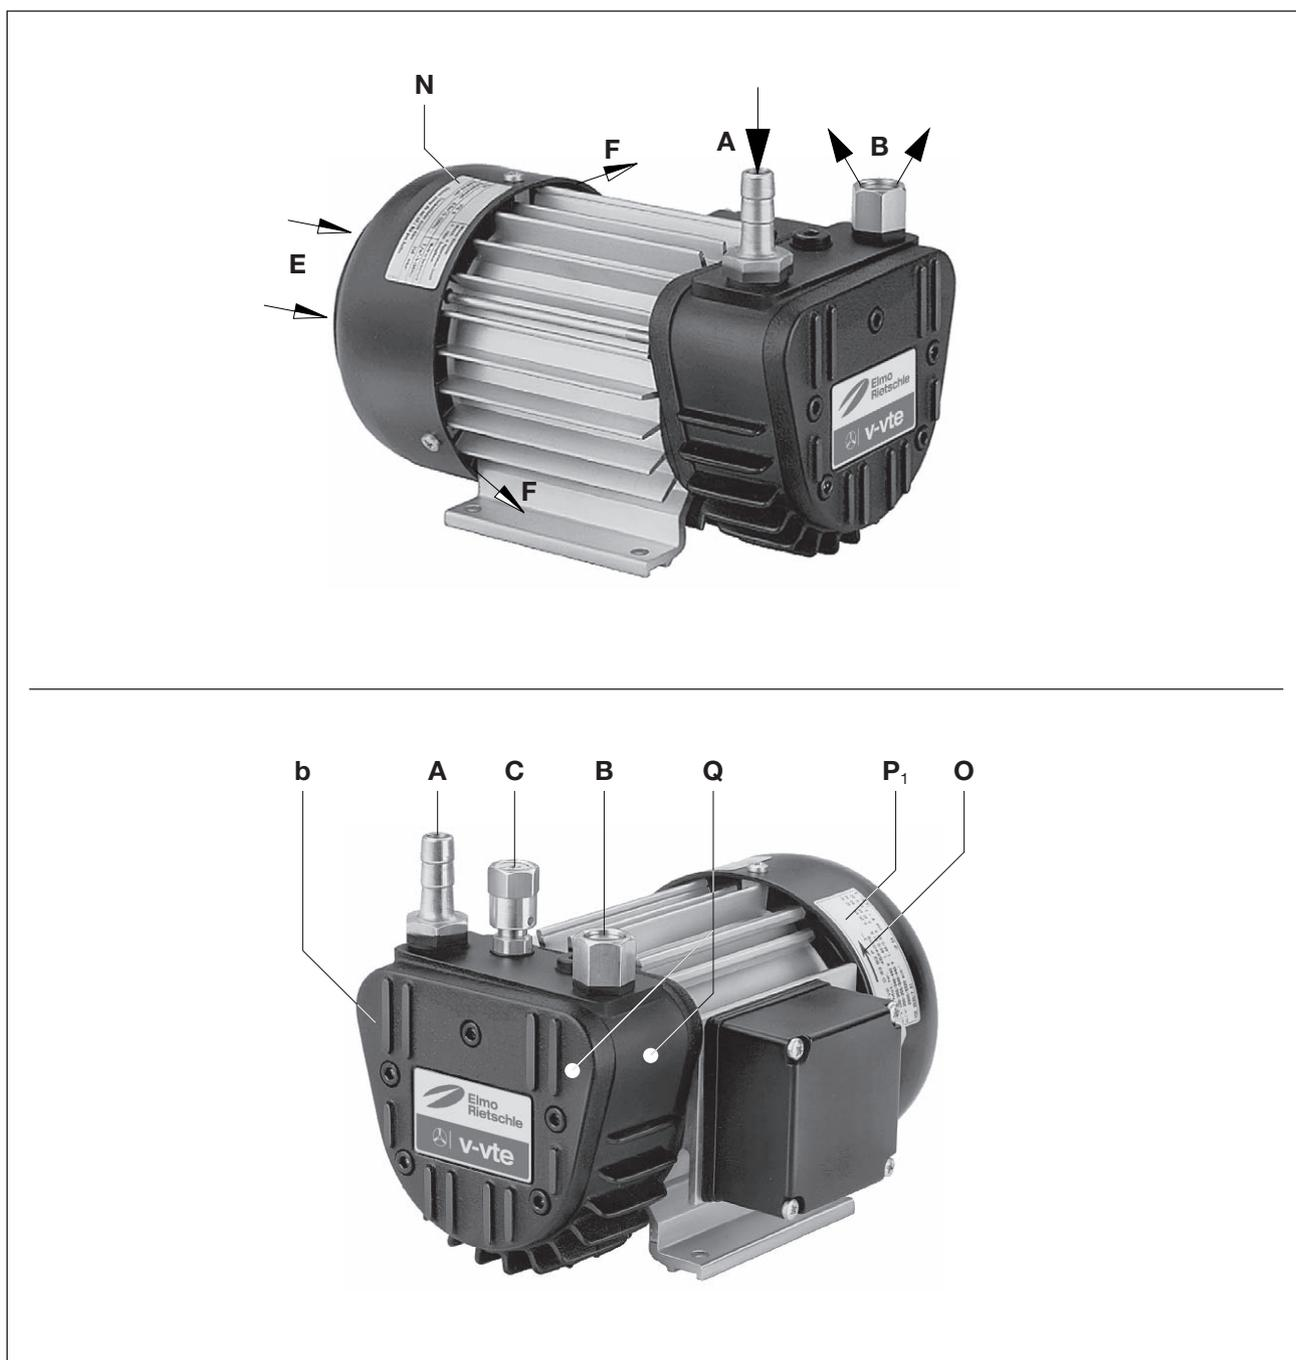

Fig. 1 Vacuum pump V-VTE
There must be a minimum space of 20 cm in front of the housing cover (Fig. 1/b) for servicing. The cooling air entries (Fig. 1/E) and the cooling air exits (Fig. 1/F) must have a minimum distance of 8 cm from any obstruction. The discharged cooling air must not be recirculated.
- a) Vacuum connection at (Fig. 1/A).
The air handled can be exhausted into the atmosphere through the exhaust port (Fig. 1/B) or by utilising a pipe connection and pipeline.
The vacuum can be set by turning the control knob (Fig. 1/C) as shown on the symbol fitted to the button.
- a) The electrical motor data can be found on the data plate (Fig. 1/N) or the motor data plate (Fig. 1/P_i). The motors comply with DIN EN 60034 and are in protection class IP 54 and insulation class F. The appropriate connection diagram is located in the motor's terminal box (not for the plug connection version). The motor data must be compared with the data of the existing mains network (current type, voltage, network frequency, permitted current value).
When the machine is at operating temperature the surface temperatures on the components (Fig. 1/ Q) may go above 70°C.
- ▷ The drive shaft direction of rotation is shown by the rotation direction arrow (Fig. 1/O).
During maintenance work there is the danger of getting burnt on hot components (Fig. 1/Q). Wait for the machine to cool down.